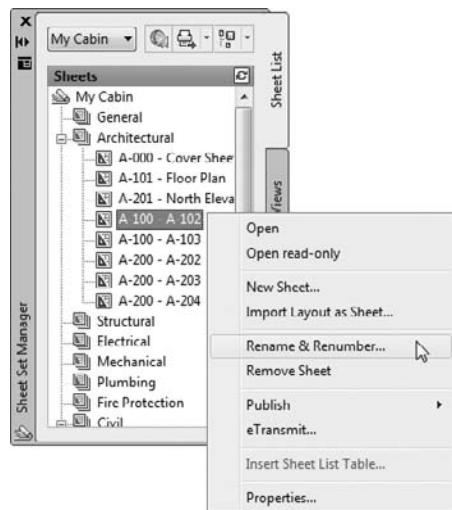

FIGURE 14.63 Choosing the Rename & Renumber option within the Sheet List panel of Sheet Set Manager
- With any drawing open, right-click on first sheet representing the newly created layouts in the sheet list, as shown in Figure 14.63, and select Rename & Renumber from the menu that opens.